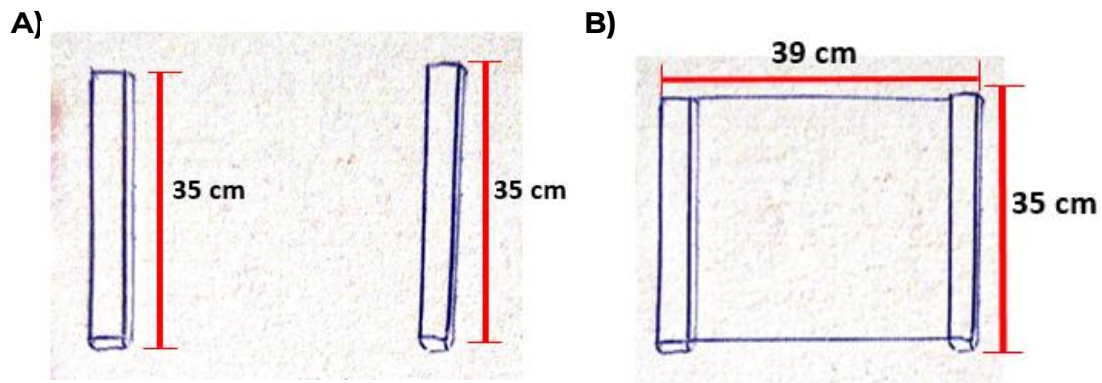
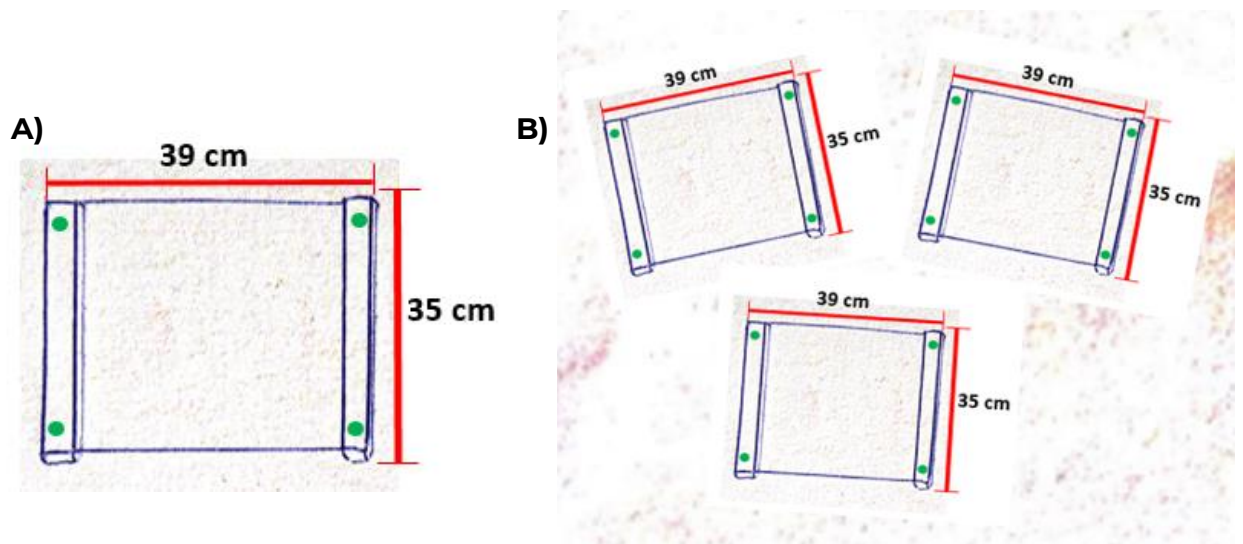

Figure 5: Plan of the lower base. A) Structure of the 35cm wooden poles and B) Union of the triplex to the poles.
Figure 6: Plan of the lower bases. A) lower structure nailed and B) repetition of the bases 3 times.
1.- Take 2 sticks of 35cm and separate them to a measure of 39 cm, to place the triplex on top (Figure 5). When we are ready, proceed to nail the corners obtaining the following (Figure 6), repeat the process 3 times.